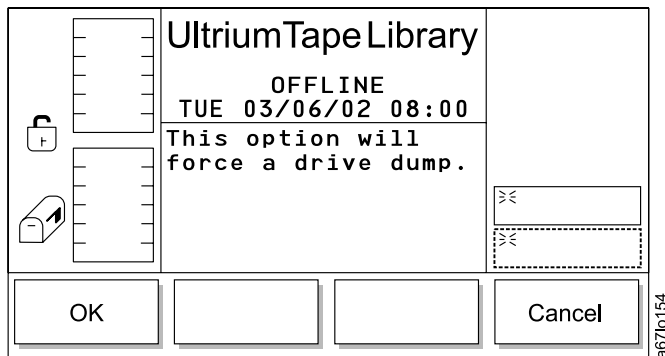

Figure 105. Force Dump Dialog
- If **Force Dump** is selected, the Force Dump Dialog displays (see Figure 105 on page 104).